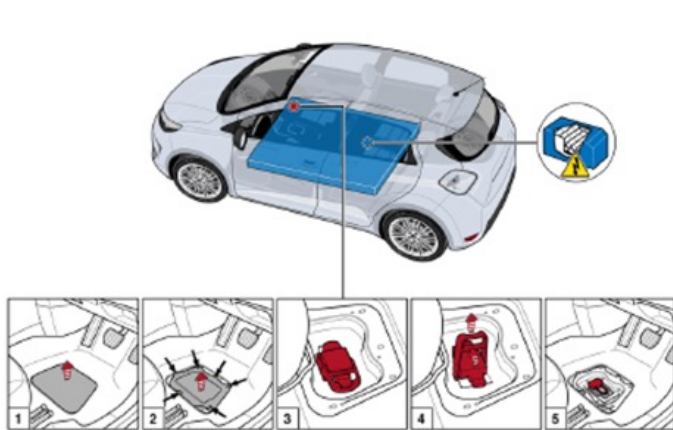

Figure 2. Access to the batteries ensemble Renault ZOE
- 11) Follow steps 1 - 2 - 3 - 4 - 5 in figure 2.